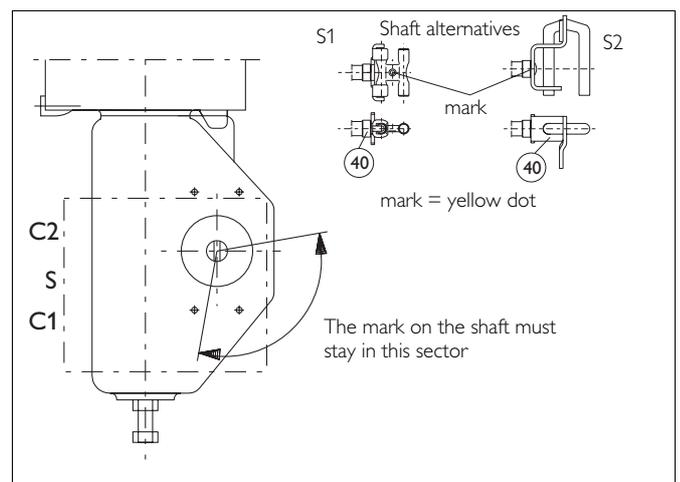

Fig. 4. Mounting on Metso Automation actuator with VDI/VDE mounting face
Shaft alternatives for the controller for Metso Automation rotary actuators are shown in Fig. 4.
- Set the direction arrow in the direction of the valve closure member and attach the draught piece (2) to the indicator cover in the position shown in Fig. 4. Secure the screw of the draught piece e.g. with Loctite and tighten it sufficiently.
- Attach the bracket (1) to the ND800PA.
- Attach the bracket (1) to the actuator. The shaft (40) of the ND800PA must fit into the draught piece (2) shown in Fig. 4. See also drawings in Section 10.2.